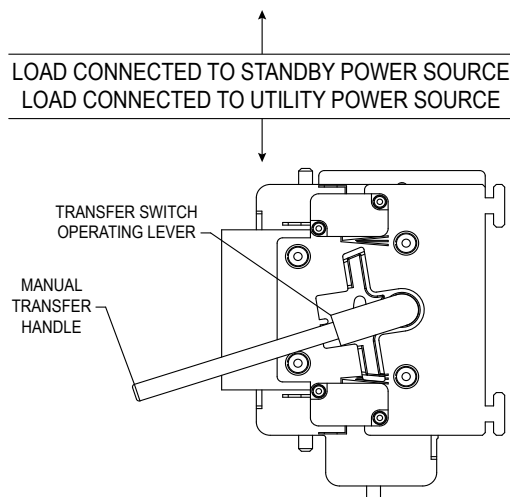

Figure 38. Terminal Block Test Points
5. Insert the un-insulated end of the handle over the transfer switch-operating lever. Refer to Figure 38.